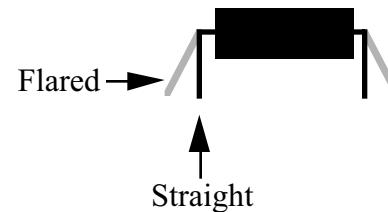

Figure 4-6
- Straighten the leads of U1 (PIC16C620) as shown in Figure 4-6. The two rows of pins must be straight and parallel to each other to establish the proper pin spacing. To straighten the pins, rest one entire row of pins against a hard, flat surface. Press down gently on the other row of pins and rock the IC forward to bend the pins into position as shown below.